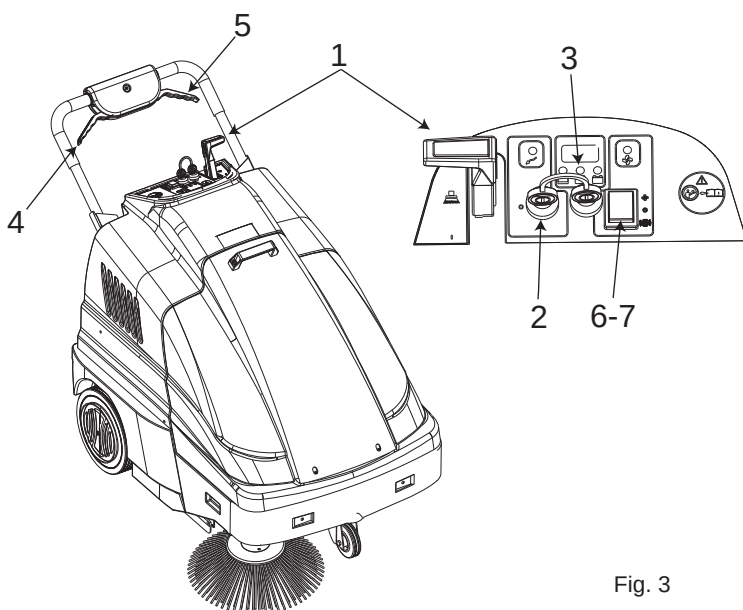

Fig. 3
- Move the brush raising lever (pos. 1 Fig. 3) to the "0" position.
- Check that the side brush pos. 1 Fig 3 is in the "0" position.
- Turn the key switch to "I" position, pos. 2 Fig. 3.
- After turning the key, wait about 10 seconds until the machine starts running. Check on the indicator pos. 3 Fig. 3 that the battery is fully charged before starting work, otherwise charge the battery.
- Activate the suction motor by moving the switch in pos. 7 Fig. 3 to "I".
Turn off the suction motor when using the machine when being moved by moving the switch in pos. 7 Fig. 3 to "0".
- Pull the drive lever pos. 4 Fig. 3 and carry out the cleaning operations. If necessary, operate the lever pos. 1 Fig. 3, moving it to position "I" to engage the side brush. After having finished work, move the side brush lever, if used, to position "0", switch the machine off and remove the keys from the control panel.
Battery life depends on routine maintenance and the level of discharge. Do not let the battery charge fall below the limit indicated by the lights in pos. 3 Fig. 3. Once the max. discharge limit has been reached, the machine will stop and must be recharged before it can be used again.